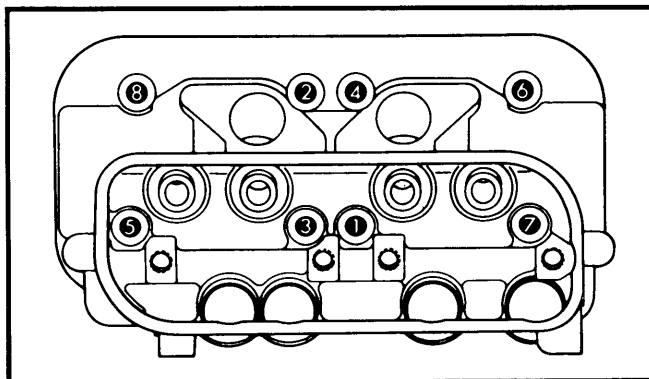

Fig. 1 Cylinder Head Bolt Tightening Sequence
**Installation – 1)** Place new metal gasket rings in peripheries of combustion chambers and install head over cylinder studs. Tighten nuts lightly by hand and then to specifications in 2 steps following sequence shown in Fig. 1.